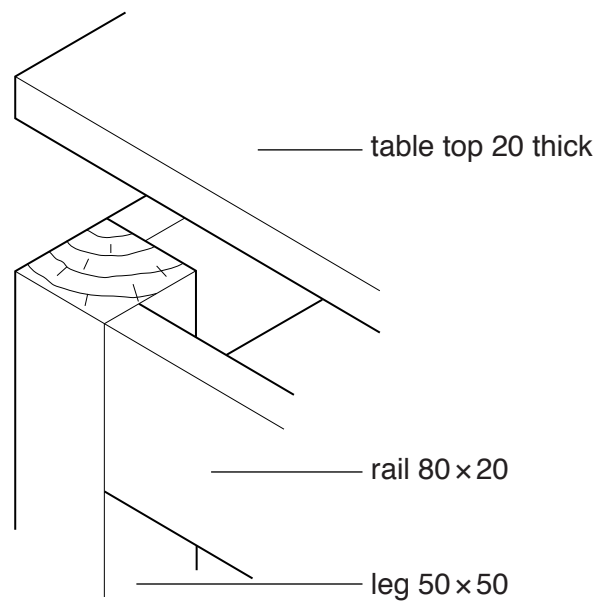

Fig. 16
- (f) Fig. 16 shows one corner of the coffee table with details of a leg, rails and table top.